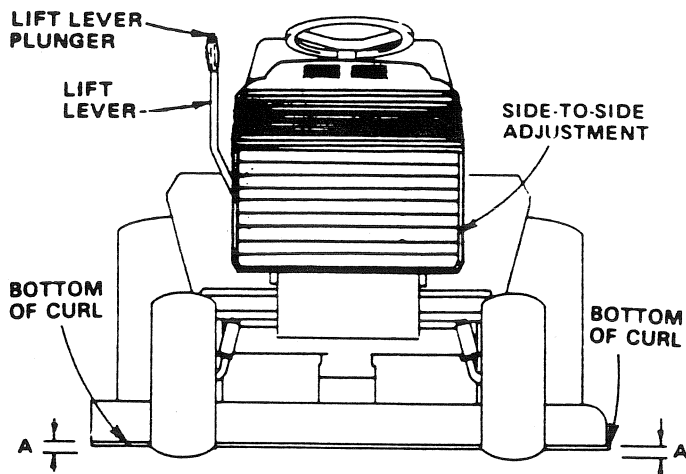

FIGURE 32
2. Measure height from bottom of curl to ground level at front of mower. Distance "A" should be the same on both side of mower (Fig. 32).